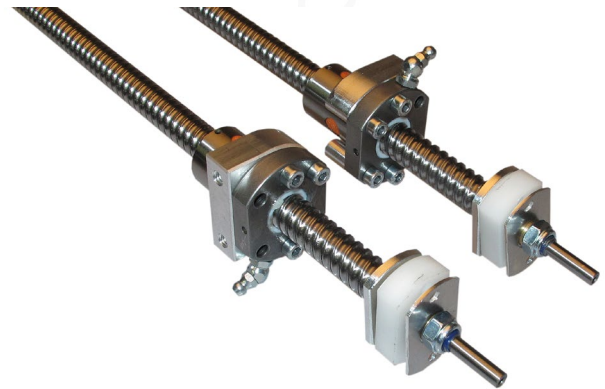

Fig. 9: Grease nipples and nut blocks on the Y spindles.
- Mount the nut blocks **23** on the spindle nuts with four flat headed screws **G1** each (Fig. 9).